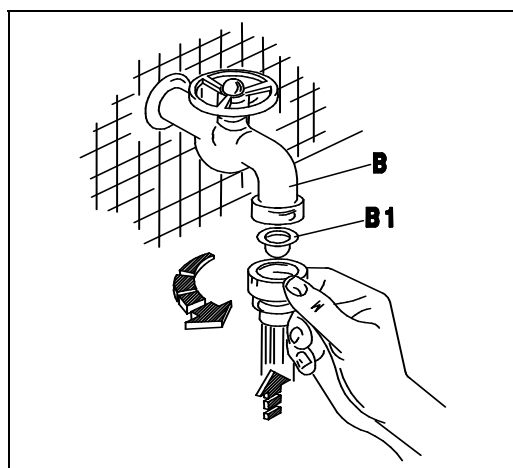

Fig. 2-2
- The appliance is designed for connection to the cold or hot water supply (max. 50-55°C) at a mains pressure with the valve open as shown in Table 2-1 and a minimum output of 10 litres/min. If pressure exceeds the maximum, fit a pressure reducer. If pressure is lower than the minimum, fit a pressure booster pump of max. 0.5 HP, with an output of 20 litres/min. and a head of 15÷20 metres. Pressure must be measured at the solenoid valve inlet (see fig. 2-4). The water pipes must have an internal diameter of at least 16/18 mm (see fig. 2-5). Connect the appliance water supply pipe to a cut-out tap (B), preferably placed close to the appliance, fitting the special filter provided (B1) (see fig. 2-2). We recommend fitting a water softener (C) (not provided) upstream from the machine solenoid valve (see fig.2-3).